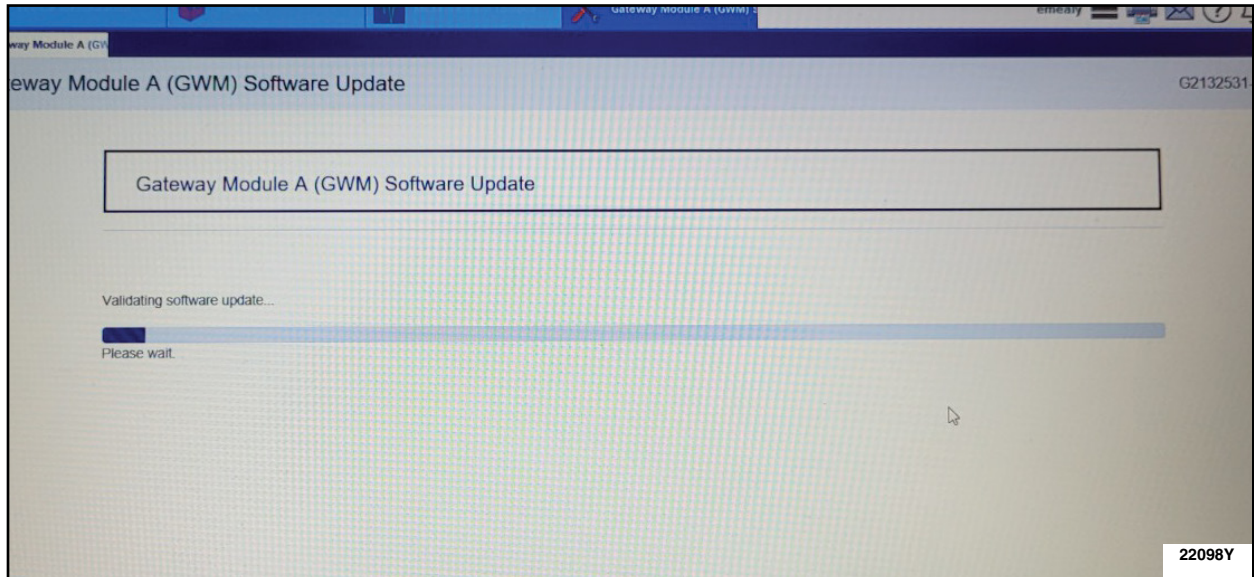

FIGURE 22
24. On the FDRS screen wait for the validating software process to finish. See Figure 22.